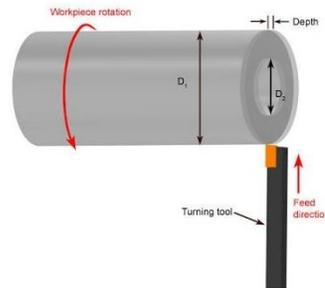

Figure Turn-16: cutting conditions in the turning process
14. Manually or automatically, feed the cutting tool until reaching to the middle of raw material face. See figure Turn-16.